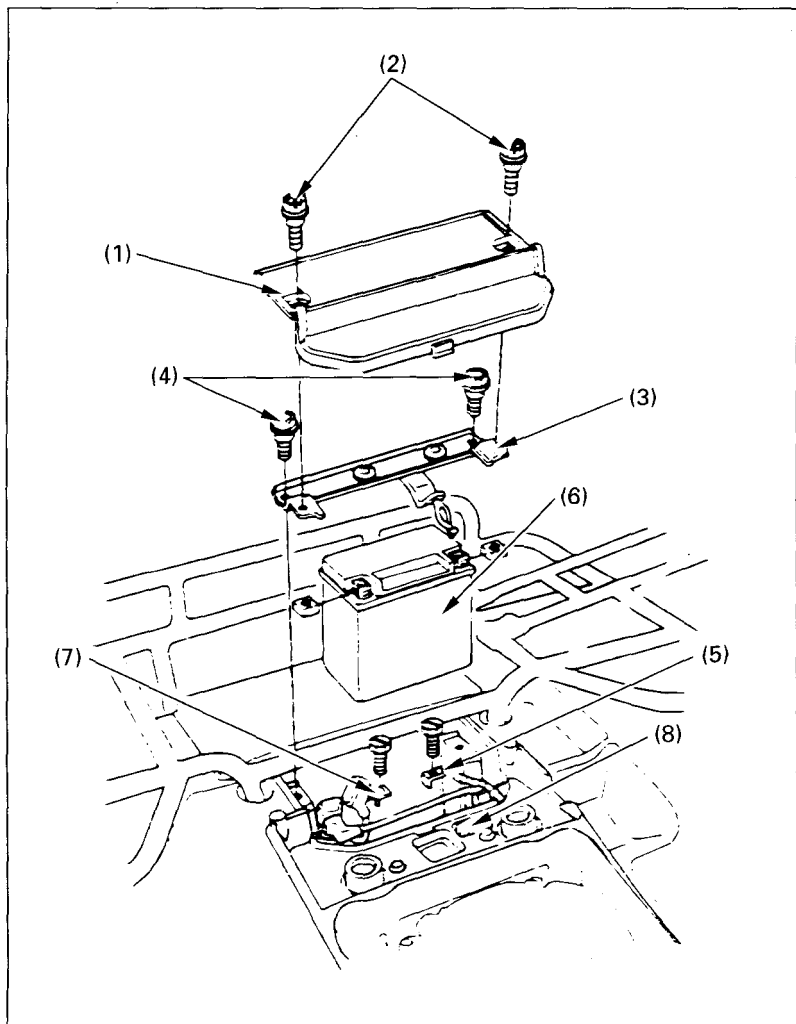

Fig. 4-20
3. Remove the battery box cover (1) by removing the mount bolts (2).
4. Remove the battery holder (3), (Fig. 4-20) by removing the mount bolts (4).
5. Disconnect the negative (–) terminal lead (5) from the battery (6) first, then disconnect the positive (+) terminal lead (7).
- * After installing the battery, check to see if the battery cables are routed correctly as shown on the label (8).